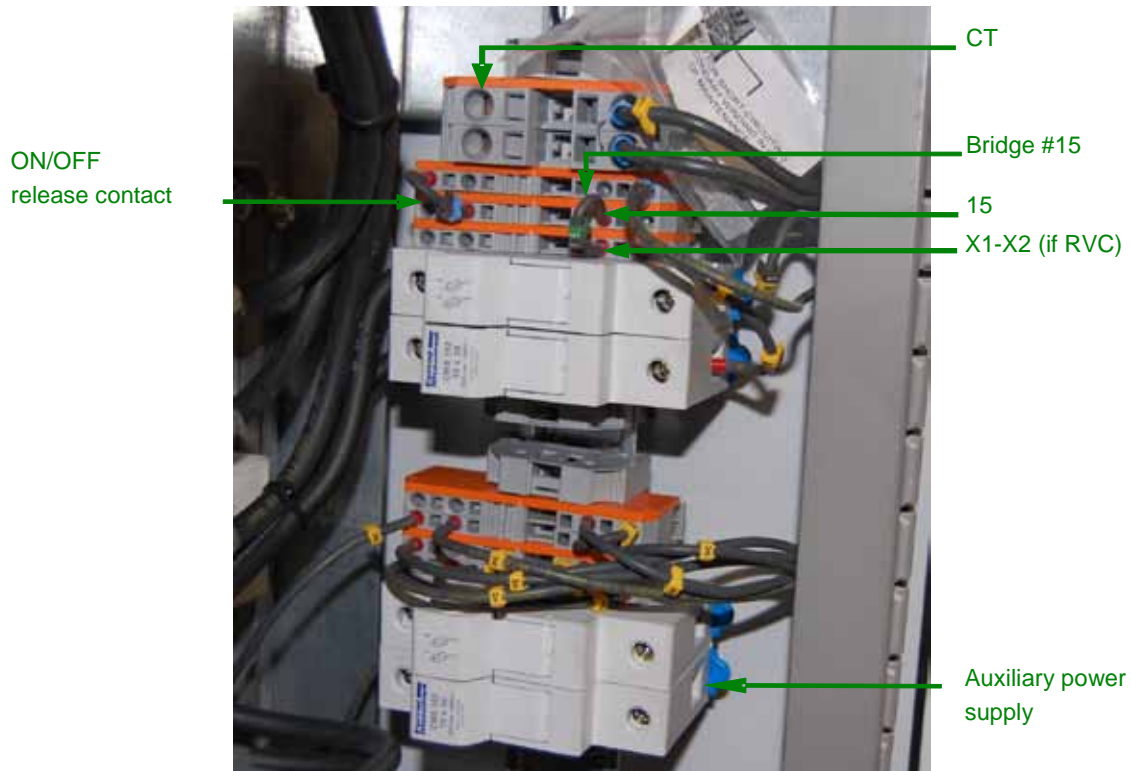

Figure 22: APCM03 and APCR03 auxiliary connections
- Remove the connection wire (jumper) situated next to the gray CT jumper as per Figure 19 and Figure 22.